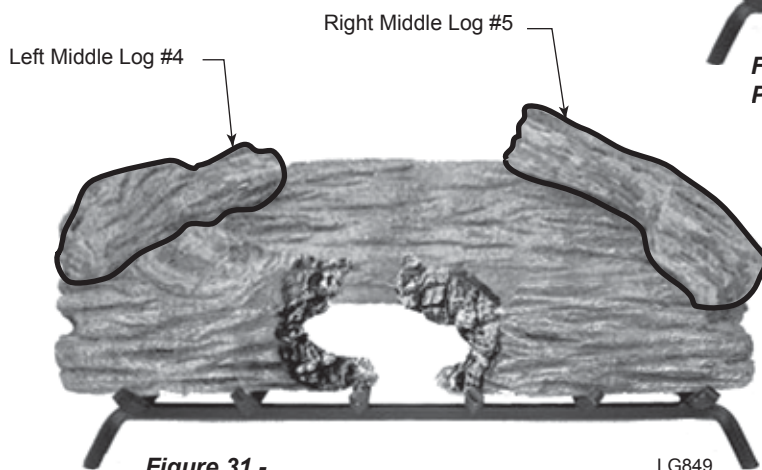

**Figure 31 -
5. Place left middle log #4 as shown. *Figure 31*
6. Place right middle log #5 as shown. *Figure 31*